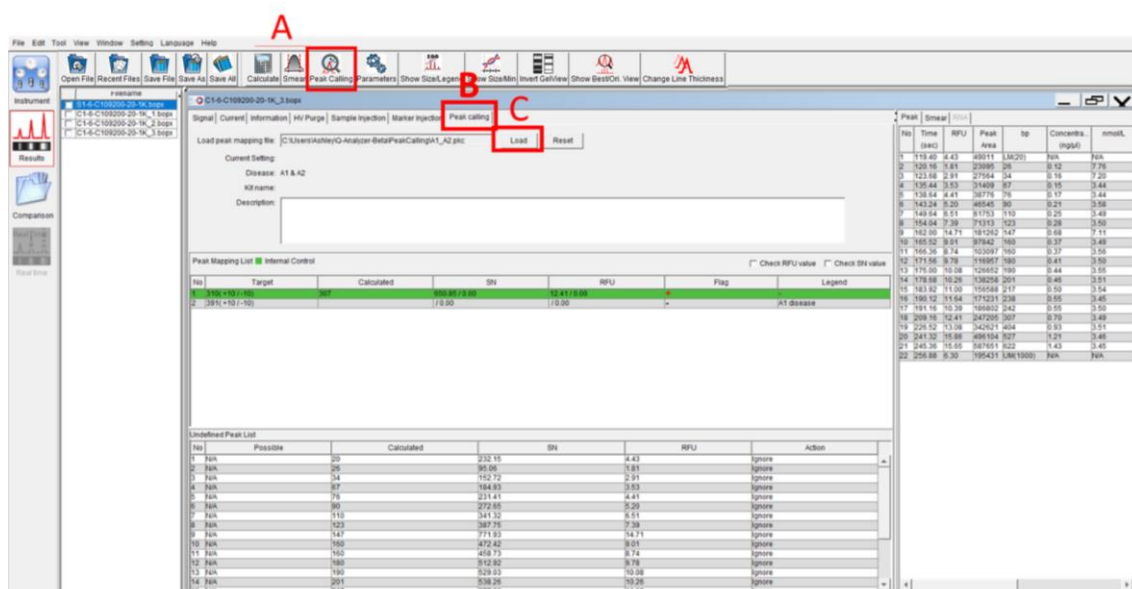

Figure 5-22 Fragment Size Calculation and Peak Calling Selection
Step4. Return to the page of your result files, calculate the fragment size and select the **Peak calling** tab. (Alternatively, you can select **Peak Calling** from the Toolbar or **Tool→Peak Calling**. Figure 5-22 A-B).
Step5. Browse the desired file and load your Peak Calling Table (Figure 5-22 C).